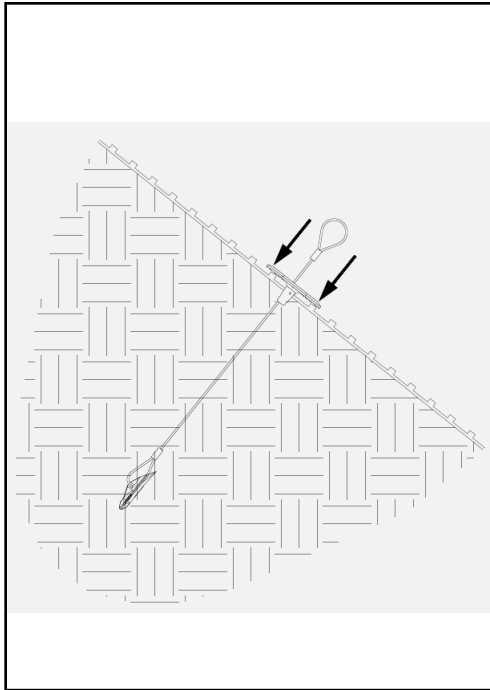

Figure 8: Slide Plate
4. Slide the load bearing plate down the anchor tendon towards the slope surface using your hands. (Figure 8)